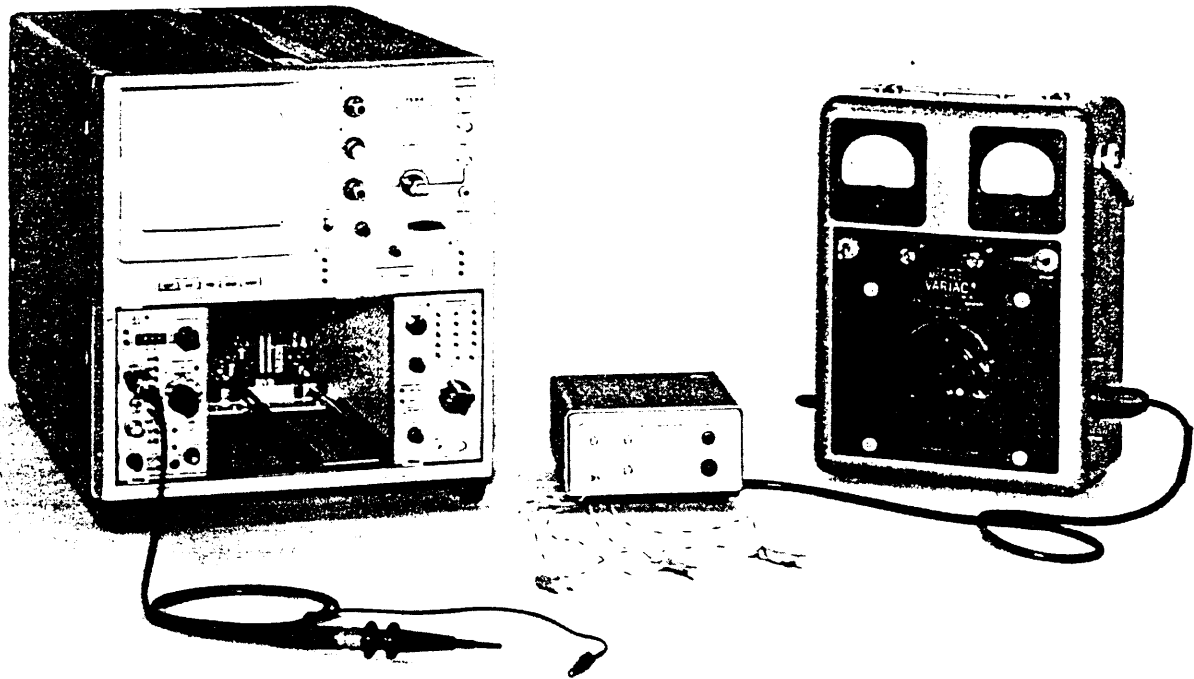

Fig. 5-1. Equipment setup for checking or calibrating the Type 1101.
a. Construct a test load for the Type 1101 using the special connector and the load resistor values given in the test equipment list. Test load resistors (Equipment List item 5) are a 400 mA load for each supply. Connect the test load to one of the output connectors on the Type 1101. Fig. 5-1 shows a typical setup.